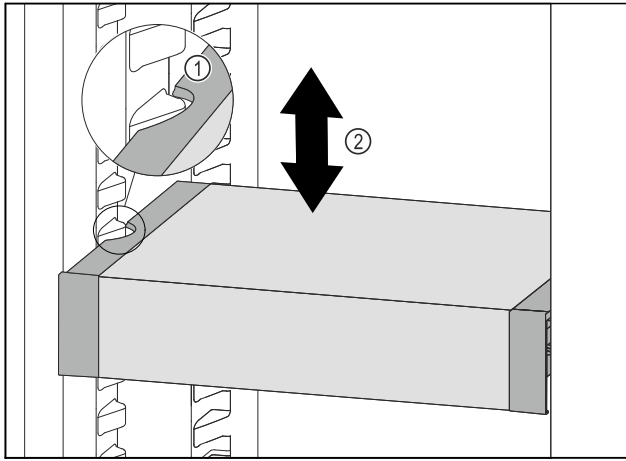

Fig. 96
- ▶ Pull VarioSafe forwards until the recesses in the side of the VarioSafe are at the level of the support rib in the refrigerator compartment. Fig. 96 (1)
- ▶ Move VarioSafe up or down in the refrigerator compartment until the desired height is reached. Fig. 96 (2)